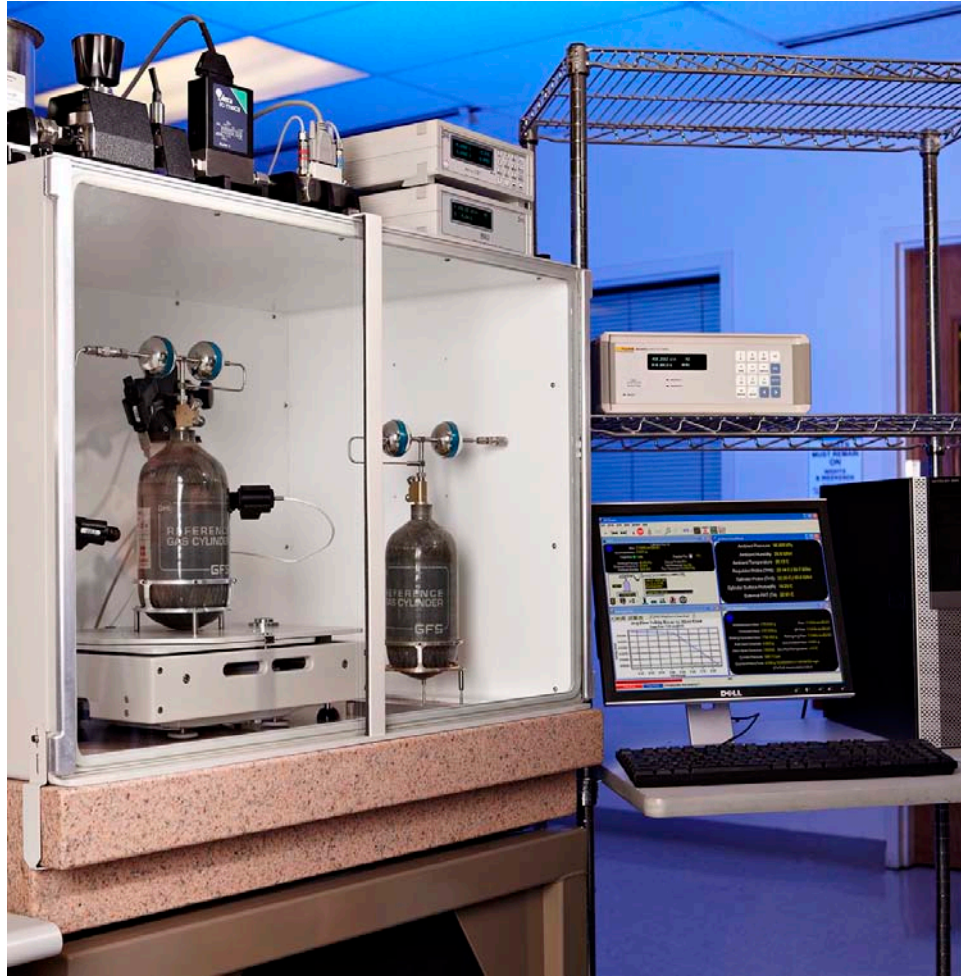

Figure 12. Typical layout of overall GFS2102 system at site of use
**Overall footprint and system layout:** The GFS2102 draft enclosure and vibration isolation table should be set up in relation to the work surface for the device under test (DUT) as shown in Figure 12. As the draft enclosure is viewed from the front, the flow path exit from the enclosure is designed to be from the left or right side. To minimize the volume of the flow path and number of connections, the GFS enclosure and table should be placed near the location of the DUT work surface. The height of the flow path exit from the draft enclosure is approximately 40 in. from the floor. Both the enclosure and table are approximately 36 in. wide by 24 in. deep. The table top is 34 in. high and the top of the enclosure is 58 in. high.